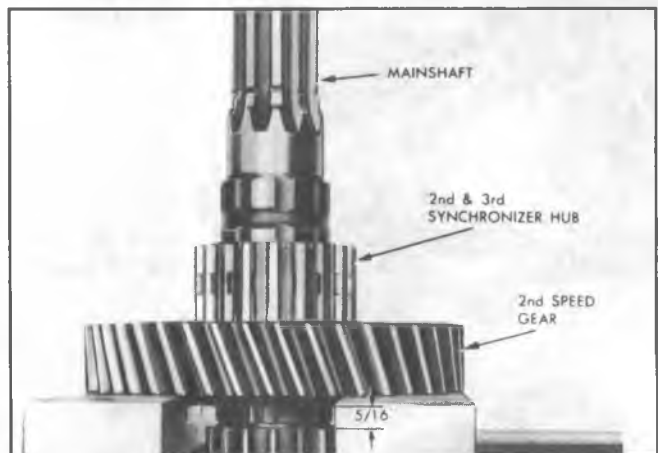

Fig. 17R--Removing Synchronizer Hub (Step 1)
- b. Support rear face of second speed gear on suitable press plates and press shaft to obtain 5/16 clearance between rear hub of second speed gear and forward end of splines on mainshaft (fig. 17R).